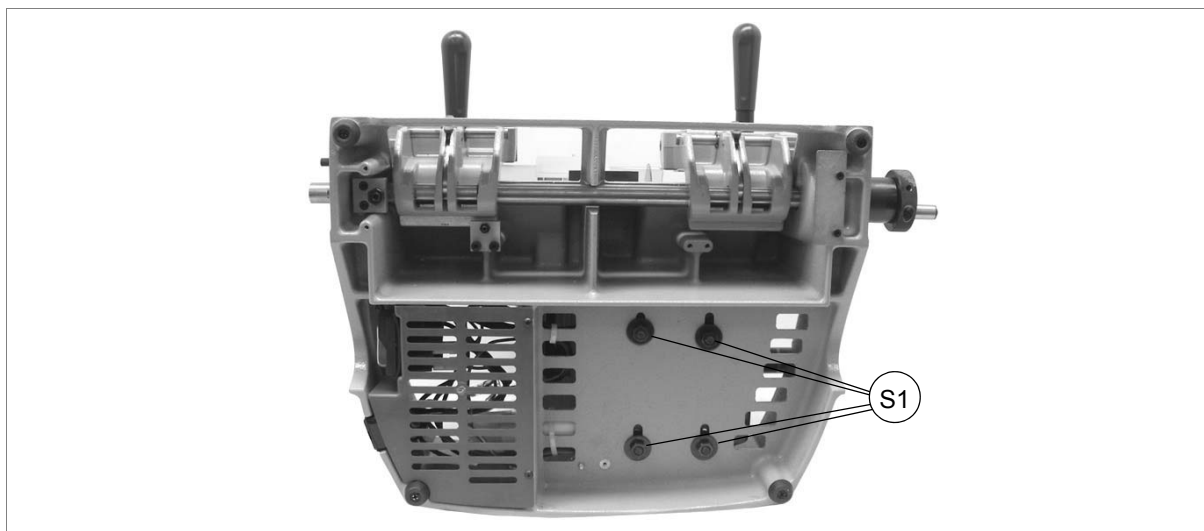

Fig. 76
- 5) Loosen the 4 screws (S1) (fig. 76) on the motor fixing plate and remove the belt (chap.8.4, page 42).
- 9) Install the belt and tighten it, and tighten the 4 screws (S1) (fig. 76) of the plate motor.